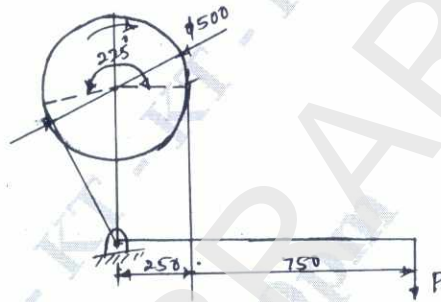

Fig.Q6(b) : All dimensions are in mm
- b. A simple band brake as shown in Fig.Q6(b) is to be designed to absorb power of 30 kW at a rated speed of 750 rpm. Determine